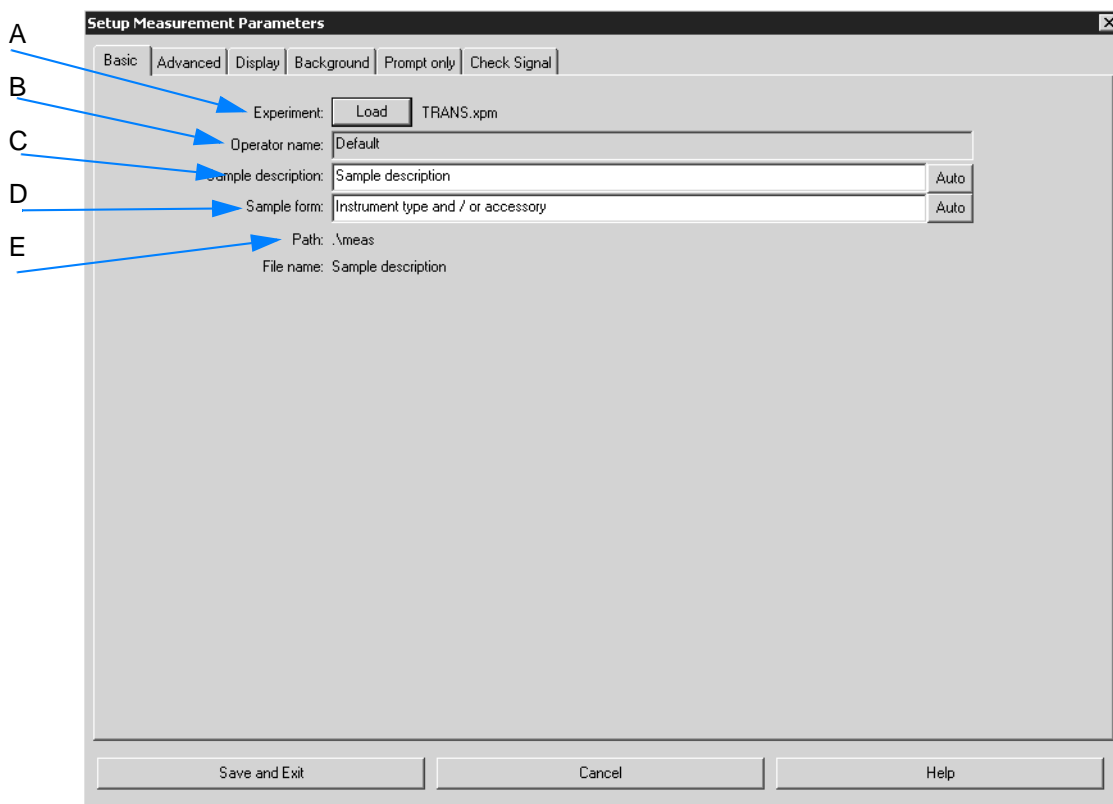

Figure 88: Setup Measurement Parameters - Basic
- 1 ...click on the *Auto* button (see figure 88) to open the following dialog: